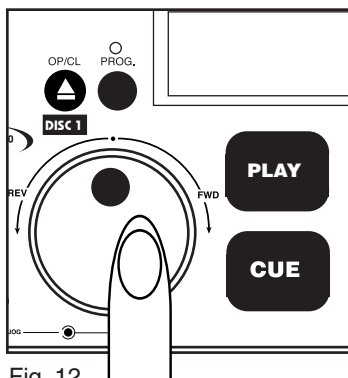
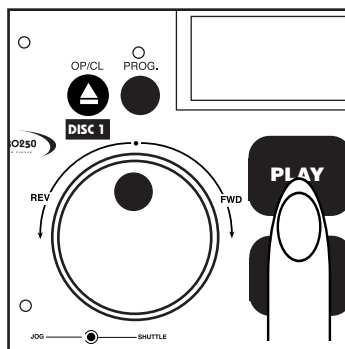
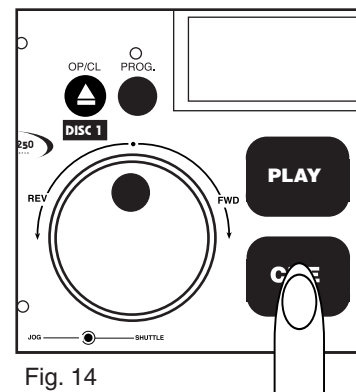

Fig. 12
Fig. 13
Fig. 14
- This feature allows you to scroll through a track to set a starting cue, sample, or loop point. To use the scroll function you must first be in Pause Mode. While in Pause Mode use the **INNER JOG WHEEL (FIG. 12)** to find your desired starting point by turning the wheel in either a clockwise or counter-clockwise direction. While using the jog wheel the monitor function allows you to hear what you are scanning through. Once you have found your desired starting point, pressing the **PLAY BUTTON (FIG. 13)** locks your cue point into memory. Pressing the **CUE BUTTON (FIGURE 14)** will return you to your set cue point until the disk is removed or a new cue point is set.